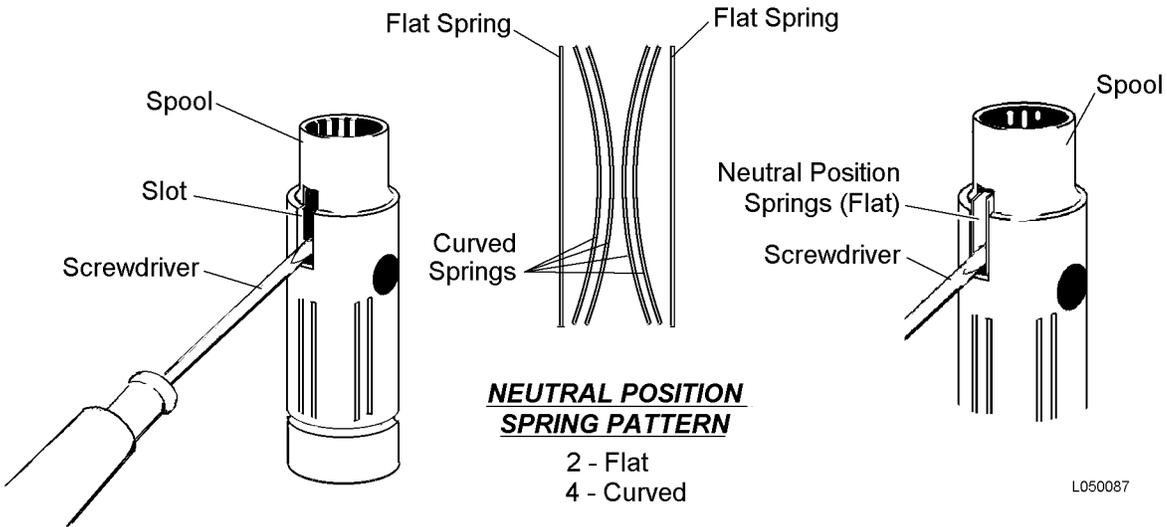

FIGURE 5-9. NEUTRAL POSITION SPRING INSTALLATION
1. To install the neutral position springs, place a screwdriver in the spool slot as shown in Figure 5-9.